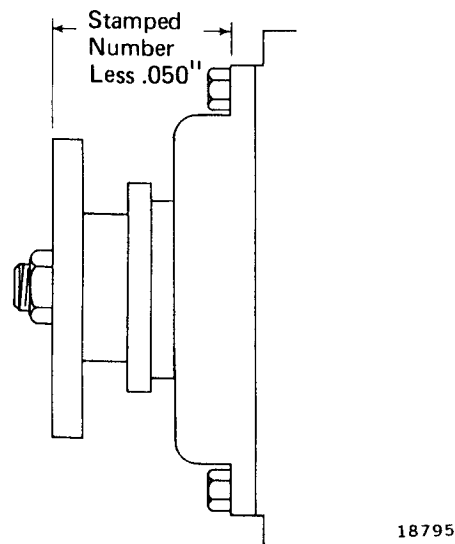

Fig. 10 - Generator Blower Drive Thrust Measurement
2. Subtract .050" from the number stamped on the support housing and adjust the position of the generator blower to establish this dimension, Fig. 10.